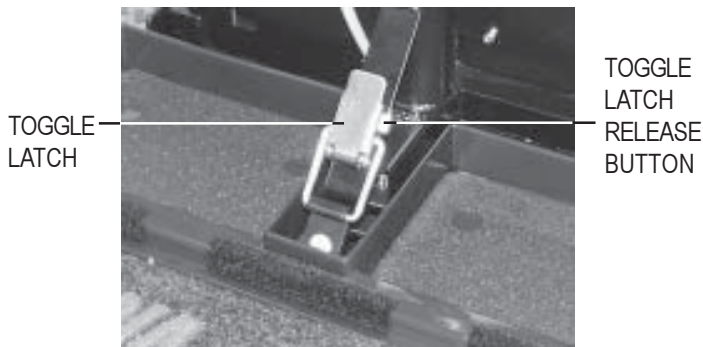

Figure 17. Toggle Latch (Latched)
1. Push in the toggle latch release button while pulling back the toggle latch. See figure 17.
5. Secure the toggle latch. See figure 17.